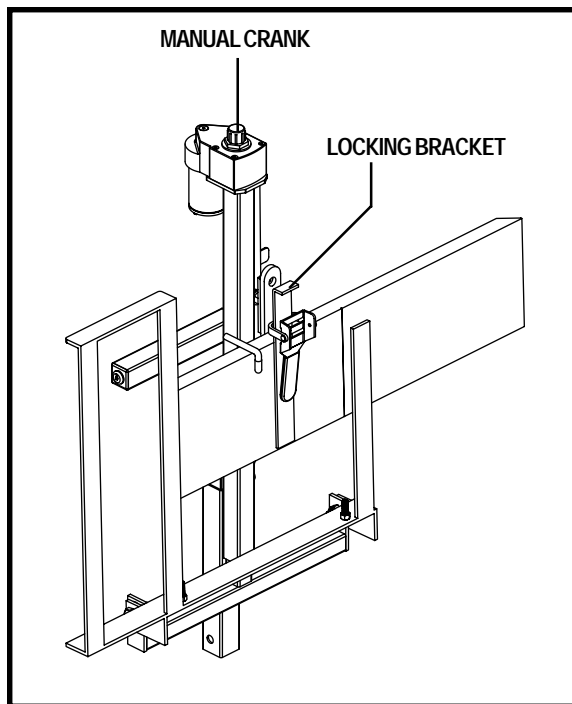

Figure 8. Platform Storage
- Pivot the platform to a vertical position, then raise the lift until the platform is secured in the stowed position by the locking bracket. See figure 8.
The lift system is equipped with a manual crank that serves as backup in the event of a power failure. Using the supplied tool, rotate the manual crank (located on top of the motor housing) clockwise or counterclockwise to move the platform up or down. See figure 8.